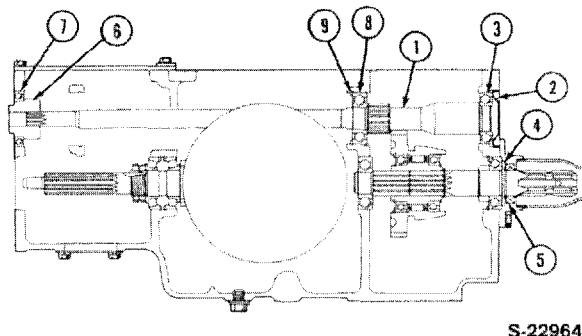

Figure 21
Reference — Figure 21
1. Remove the PTO output shaft retainer assembly (4), Figure 21.